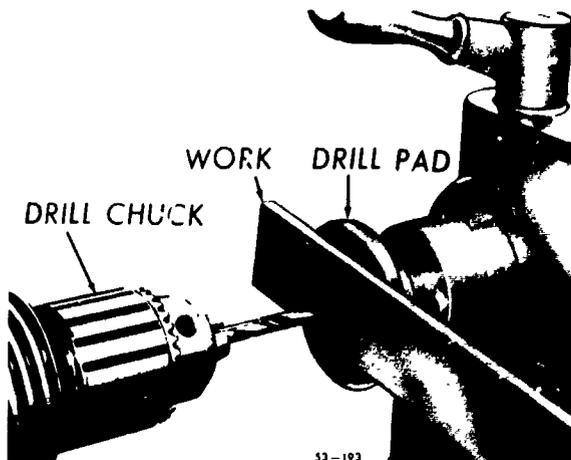

Figure 58. Supporting work with a drill pad.
e. *Drill pad centers* have a circular disc or pad on one end. When a center is inserted in the tailstock spindle, the pad supports flat work for operations such as drilling, as shown in figure 58.